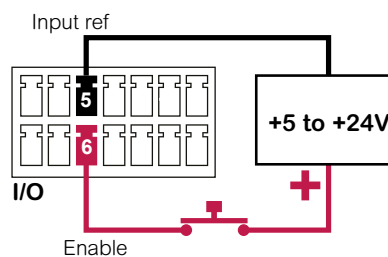

Figure 2: Connect the enable input
2. Connect the enable input. The “Enable” input must be at a level in relation to the Input Reference that results in current flow. See Figure 2 for interface options.